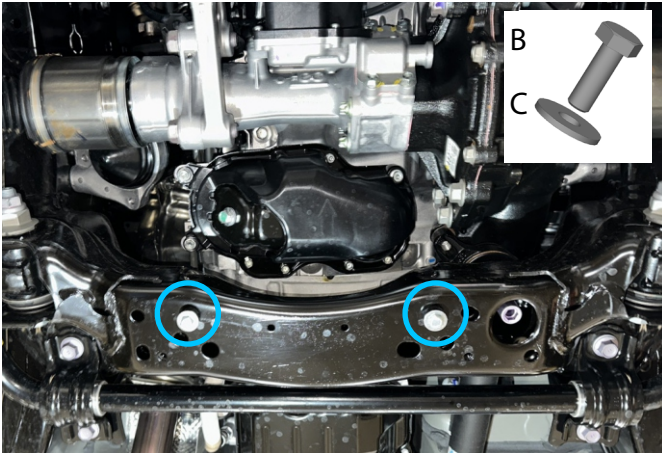

Fig. 7
7. Loosely install supplied M8x25 bolts with M8 washers (items B,C) into factory threaded holes as shown in Fig. 7.